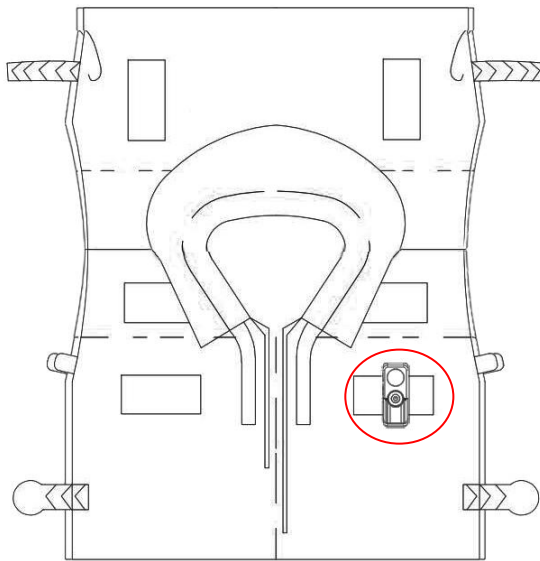
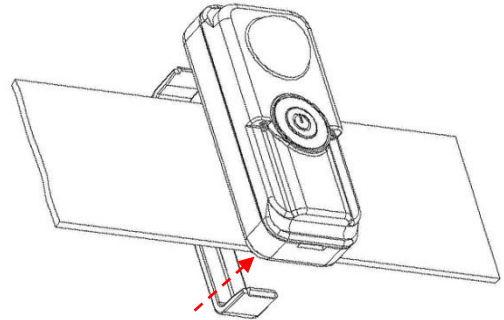

Figure 3-1
Figure 3-2
LNK-SL3 and LNK-SL3W lifejacket lights are supplied with fix buckles. The buckle is normally placed behind a belt of lifejacket or fixed through the fiber at suitable position near the shoulder of lifejacket. The users must ensure the light can provide maximum visibility after installation, meanwhile the water sensors can contact with water when the life jacket drops in the water. The typical installation is shown as Figure 3-1:
- 3.2.3 Installation procedures are show as below pictures. Figure 3-1 shows the example installation position of the light. Figure 3-2 shows the installation steps of the lights.